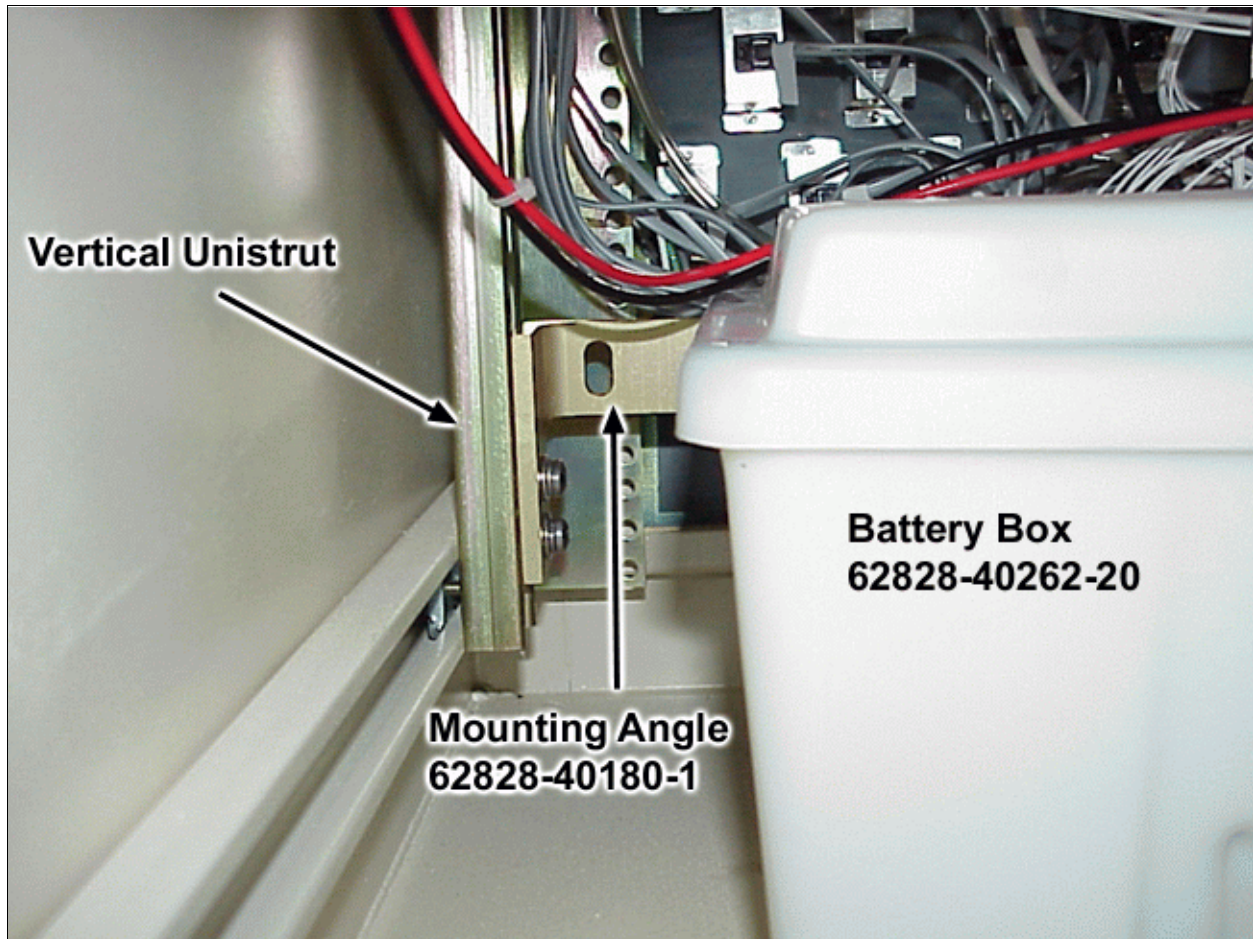

Figure 1 Mounting Angle Installation
5. In the bottom on the ACU cabinet, install the angle mounting brackets (P/N 62828-40180-1 and -3) to the vertical unistruts with the appropriate hardware (62828-90288-1, MS51957-82, MS35338-139, MS15795-810). Refer to figure 1.
6. Place the battery box (62828-40262-20) on the bottom of the ACU cabinet behind the blower. Refer to figure 1.